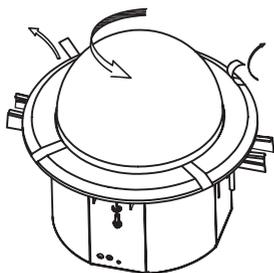

Figure 1
- (1) Remove four tapes from dome cover then open the dome cover counterclockwise. Please refer to Figure 1.